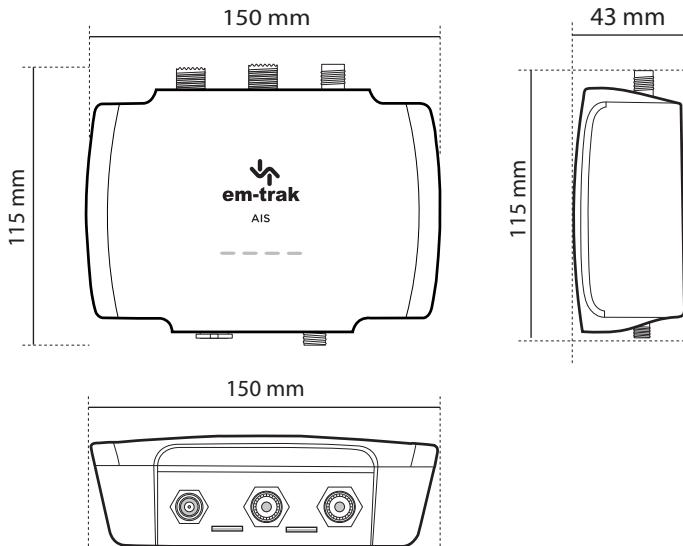

Figure 9 AIS transceiver dimensions
- There should be adequate space around the transceiver for routing of cables. See Figure 9 for details of the transceiver dimensions.